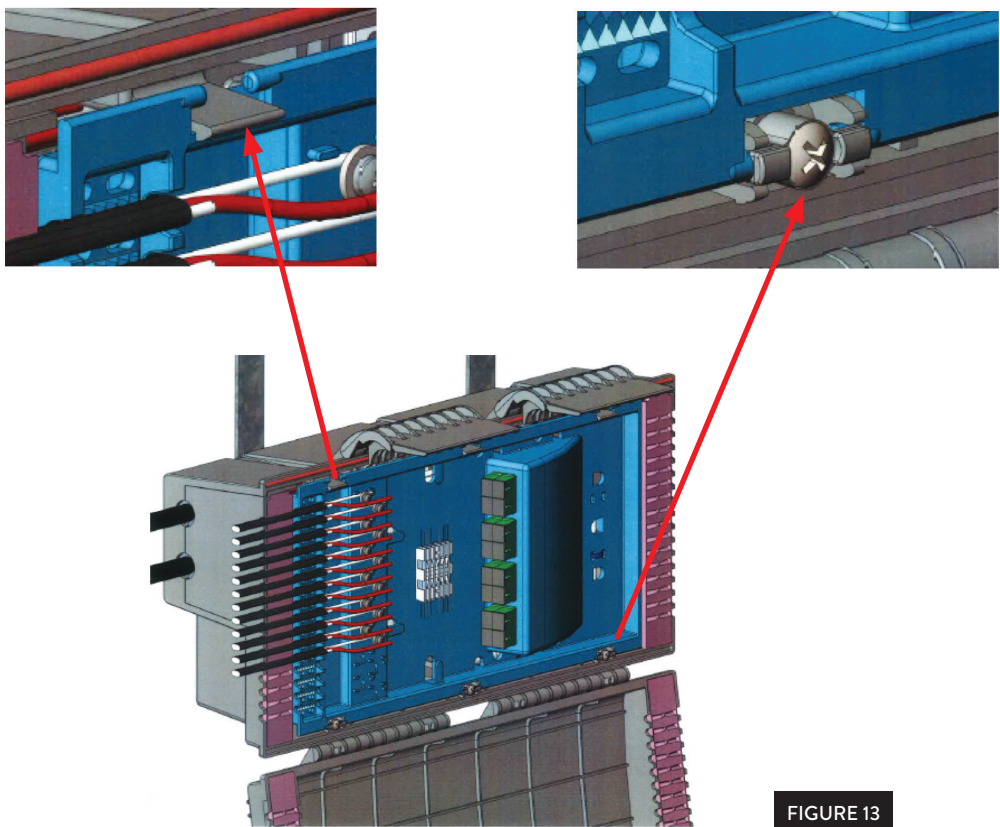

FIGURE 13
1. To reverse the orientation of the Drop Door you must remove the three hinges that hold the door in place and switch sides that is currently holding the clips that keep the door closed. [Figure 13]